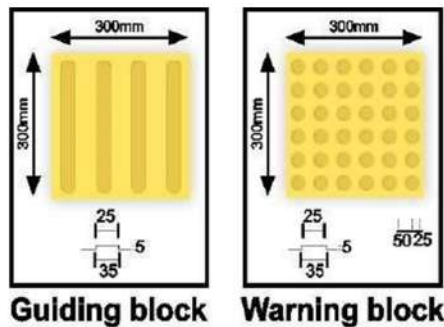

Figure 5.17 Tactile guiding and warning blocks
- Line-type blocks (**Fig. 5.17**) indicate the correct path/route to follow
- Dot-type blocks (**Fig. 5.17**) provides warning signal, to screen off obstacles, drop-offs or other hazards, to discourage movement in an incorrect direction and to warn of a corner or junction. Should be placed 300mm at the beginning and end of the ramps, stairs and entrance to any door